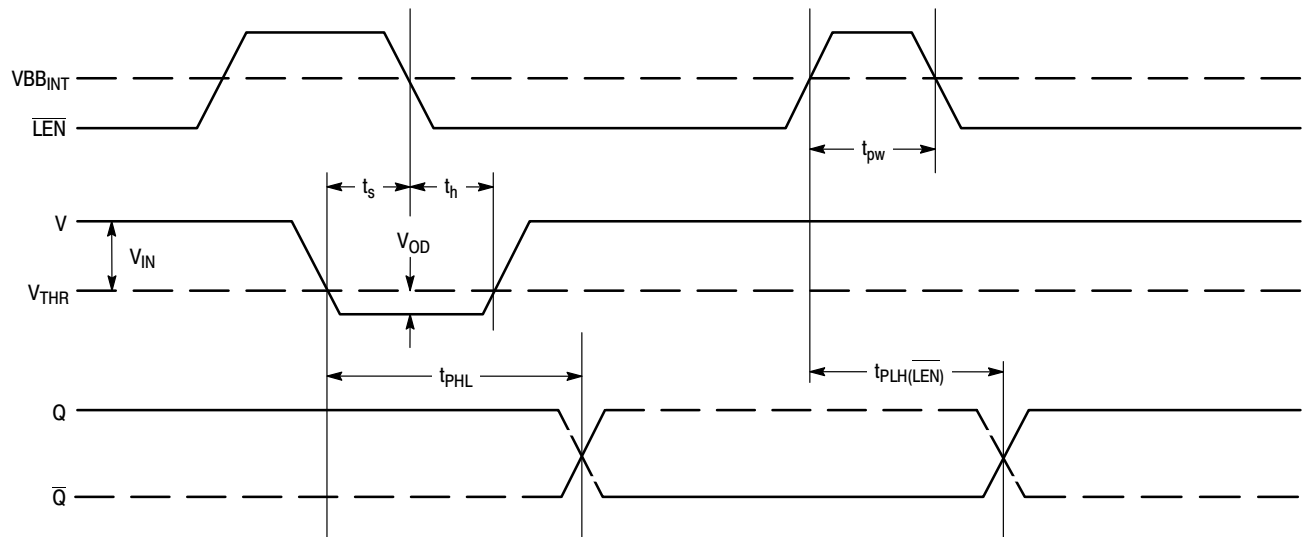

Figure 5. Input/Output Timing Diagram
13. Refer to Figure 5 and note that the input is at 2.5 V TTL levels with the input threshold range between the 20% and 80% points. The delay is measured from the crosspoint of the input signal and the threshold value to the crosspoint of the Q and $\bar{Q}$ output signals.
The timing diagram (Figure 5.) is presented to illustrate the MC10E1652's compare and latch features. When the signal on the $\overline{\text{LEN}}$ pin is at a logic high level, the device is operating in the "compare mode," and the signal on the input arrives at the output after a nominal propagation delay (t_{PHL} , t_{PLH}). The input signal must be asserted for a time, t_s , prior to the negative going transition on $\overline{\text{LEN}}$ and held for a time, t_h , after the $\overline{\text{LEN}}$ transition. After time t_h , the latch is operating in the "latch mode," thus transitions on the input do not appear at the output. The device continues to operate in the "latch mode" until the latch is asserted once again. Moreover, the $\overline{\text{LEN}}$ pulse must meet the minimum pulse width (t_{pw}) requirement to effect the correct input-output relationship. Note that the $\overline{\text{LEN}}$ waveform in Figure 5. shows the $\overline{\text{LEN}}$ signal swinging around a reference labeled VBB_{INT} ; this waveform emphasizes the requirement that $\overline{\text{LEN}}$ follow typical ECL 10KH logic levels because